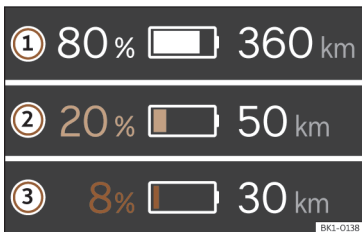

Fig. 25 On the digital instrument cluster: range and reserve indication.
The current state of charge of the high-voltage battery is indicated by the symbol on the digital instrument cluster >>> **Fig. 25** ①. The battery symbol will be more or less full depending on the state of charge of the battery.
The vehicle range is displayed in kilometres (km) or miles (mi) depending on the selected setting >>> **Fig. 25** ②.
Reserve area >>> **Fig. 25**